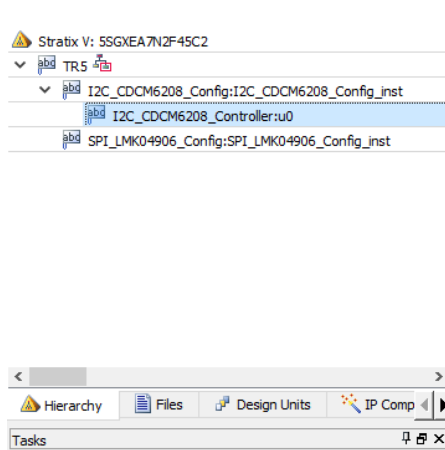
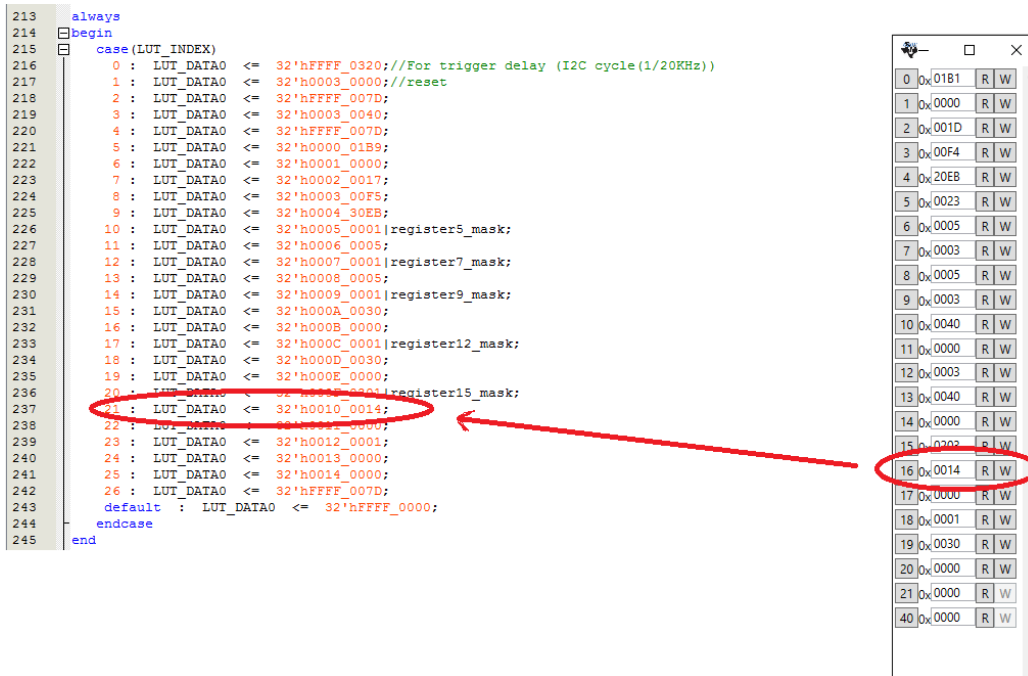

Figure 5-7 Sub-Module file "I2C_CDCM6208_Config.v"
Figure 5-8 Modify CDCM6208 Control IP Base on Register Table
4. Open CDCM6208 control IP sub-module “I2C_CDCM6208_Config.v” as shown in Figure 5-7, refer to Register Table to modify all the sub-module corresponding register values (See Figure 5-8).